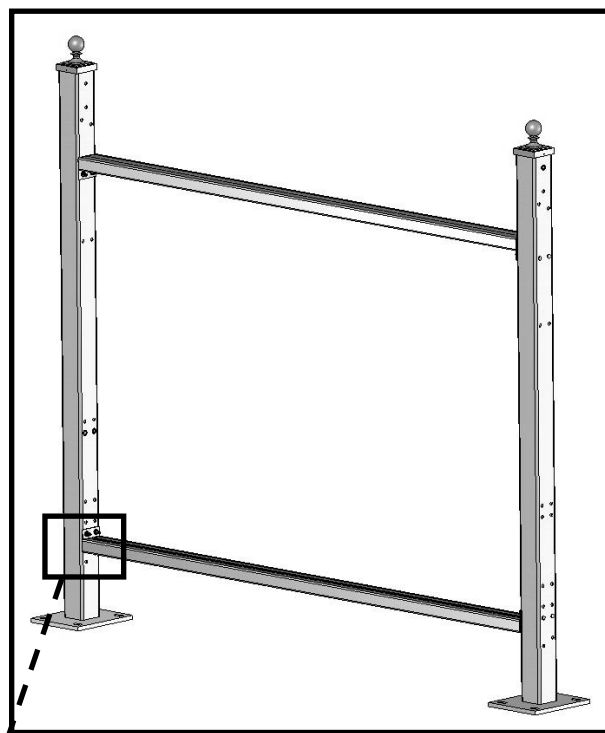

Figure 11 – Mounting beam slot
- a) On ends of the upper and lower horizontal mounting beams there is an enlarged area of the slot in the beam. See Figures 11 and 12.